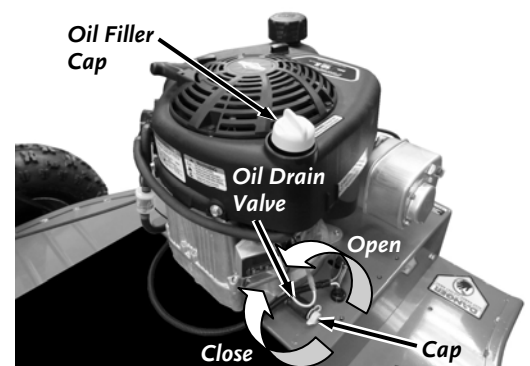

Figure 24
1. Remove the Oil Filler Cap and position a suitable oil drain container under the machine near the Oil Drain Valve on the side of the Engine (**Figure 24**).